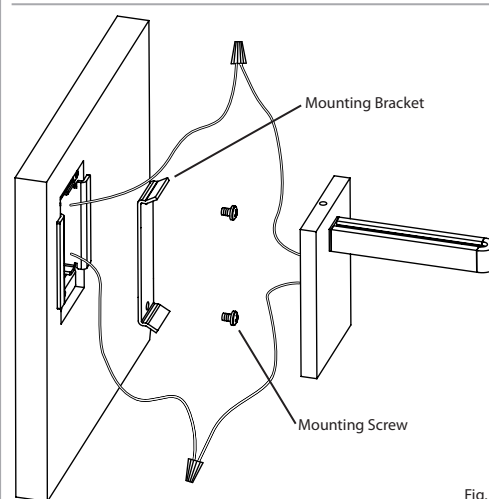

Fig. 5
15. Make appropriate electrical connections using wire nuts: Connect one of the **Power Feed** wires to one of the **Transformer** output wires. Connect the other **Power Feed** wire to the second **Transformer** output wire. Carefully place connections in the **Minibox** (Fig. 5).
16. Attach **Mounting Bracket** to **Minibox** with two **Mounting Screws** (Fig. 5).